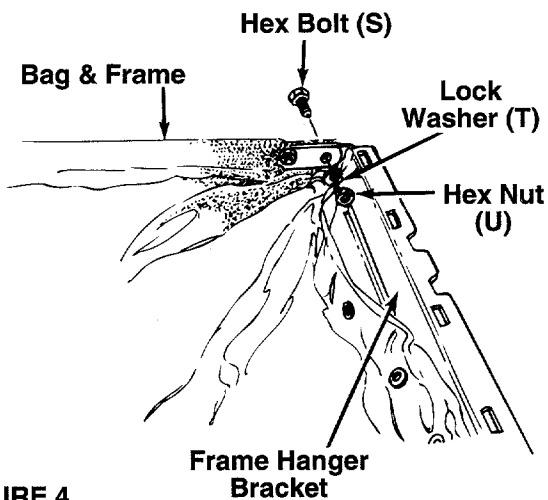

FIGURE 4.
2. Attach one frame hanger bracket to the bag and frame as follows. See figure 4.
- b. The frame hanger bracket goes outside of the bag and the frame. The flange with the slots is the top of the hanger bracket. Working on one side, line up the holes in the frame and bag with the holes in frame hanger bracket. Secure hex bolts (S), lock washers (T) and hex nuts (U), finger tight only. The head of the bolts go to the outside of the bag.